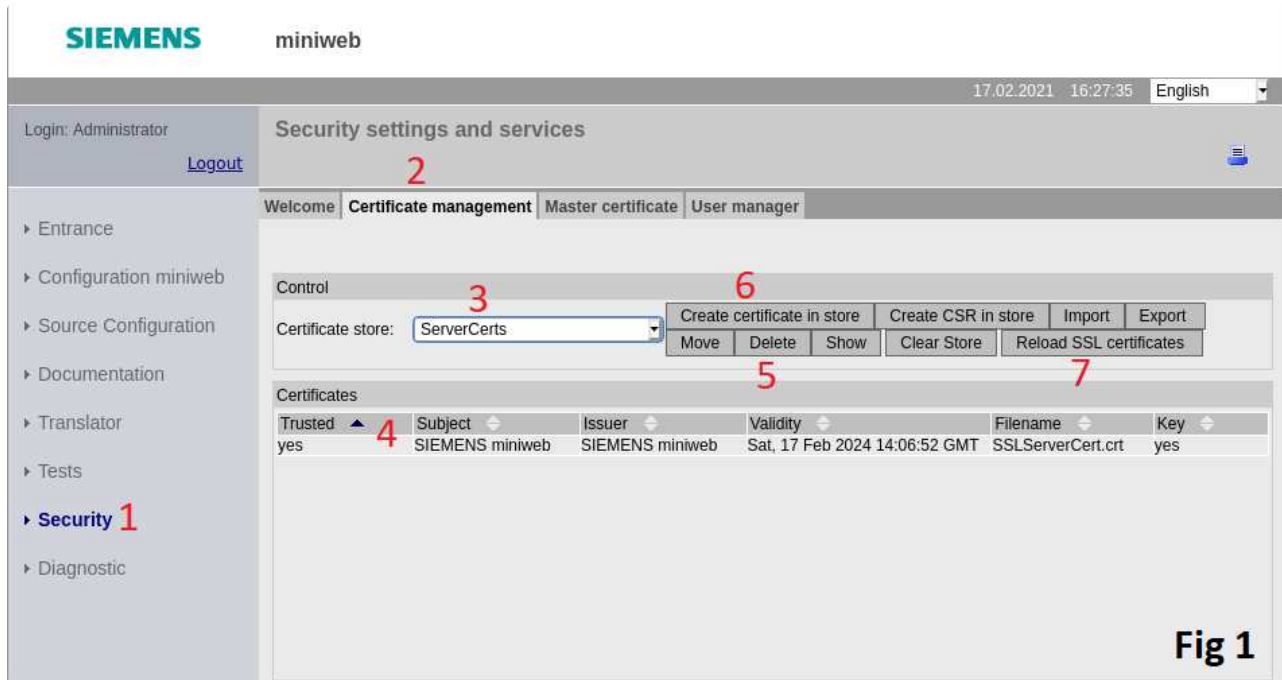
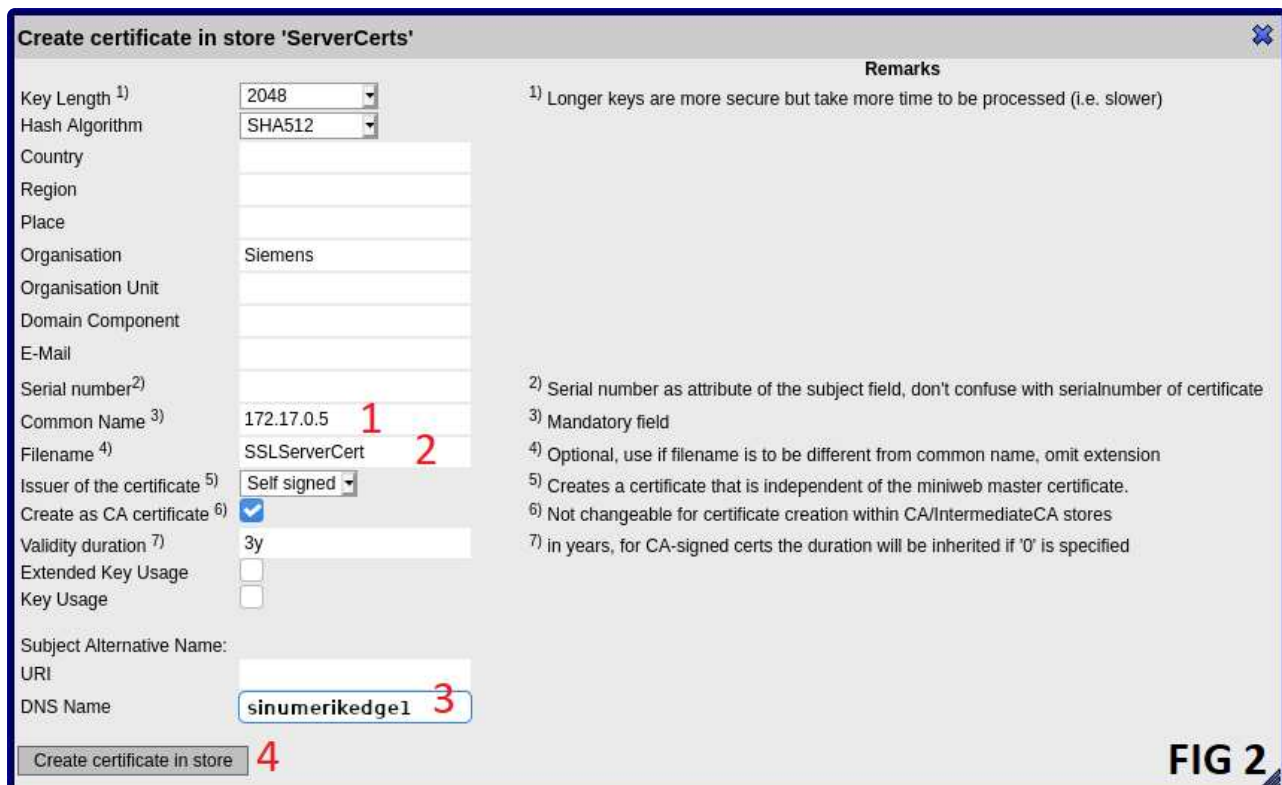

Fig 1
FIG 2
1. Navigate to **Security** page. (Fig 1)
2. Open **Certificate Management** tab. (Fig 1)
3. Click **Certificate Store** drop down box and select **ServerCerts** store. (Fig 1)
4. Click existing row where certificate name matches with `SSLServerCert.crt`. (Fig 1)
By default, reverse proxy will have a SSL server certificate created. In order to override this pre-existing certificate must be deleted. In case of lack of certificate, reverse proxy will automatically create one. 5. Click `Delete` button. (Fig 1) 6. Start creation of new certificate by clicking `Create certificate in store` button. (Fig 1) 1. Fill `Common Name` field with IP address of your device in case of IP based access is desired, otherwise anything arbitrary can be written. (Fig 2) 2. Fill `Filename` field exactly as "SSLServerCert". (Fig 2) 3. Fill `DNS Name` field with DNS name of your device in case of DNS based access is desired, otherwise this field can be left blank. (Fig 2) 4. Click `Create certificate in store` button. (Fig 2) 7. Click `Reload SSL certificates` button to make the created certificate to take in effect. (Fig 1) 1. Check the checkbox labeled 1. (Fig 3) 1. Click `Reload SSL certificates` button. (Fig 3)
Fig 2 below. The certificate import is completed upon selecting the appropriate certificate and clicking the **Import** button in the dialog menu. In order to imported certificates to take effect, users are required to reload certificates by clicking **Reload SSL certificates** (5) button and confirming popup.